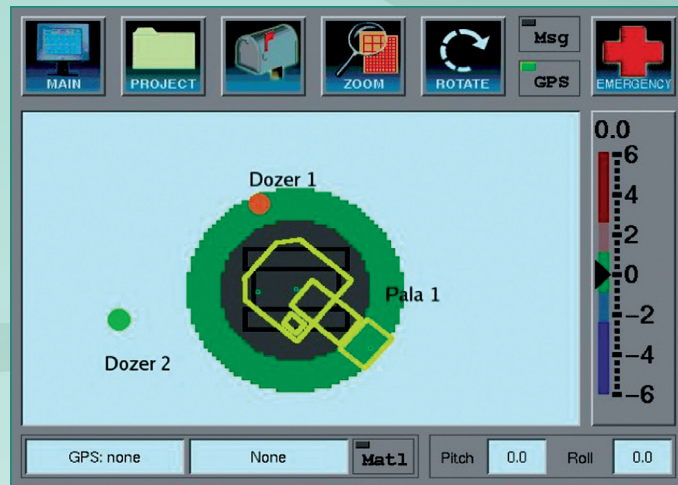

Figure 1. Navigation screen for shovels, dozers, and drills.
- Navigation screen for shovels, dozers, and drills (Figure 1).
dozers, and drills (Figure 1).
Once two or more pieces of equipment form a group, individual position data is sent to each member of the group. Each equipment operator can see neighbouring equipment on his or her screen. Equipment entering the work zone is represented by a coloured circle (Figure 1).